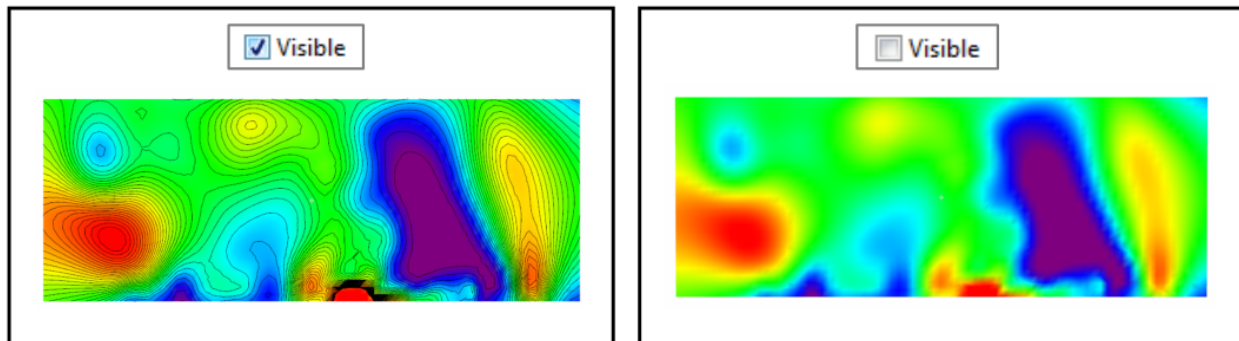

Figure 14.9: Contour lines visible and not on a XY section
- **Visible:** controls the visibility of the contour lines (Figure 14.9).